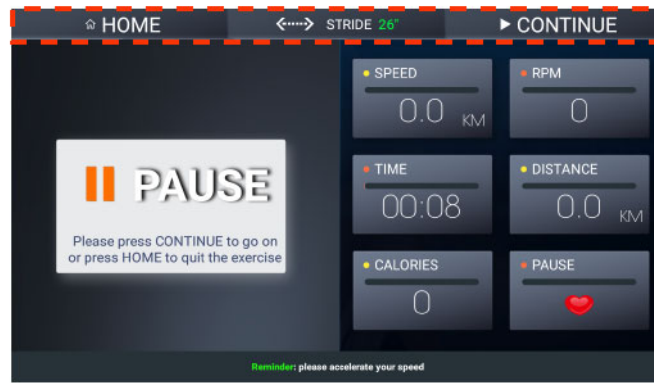

Fig.19 Paused Training
- ✧ Press  to continue (Fig.19)